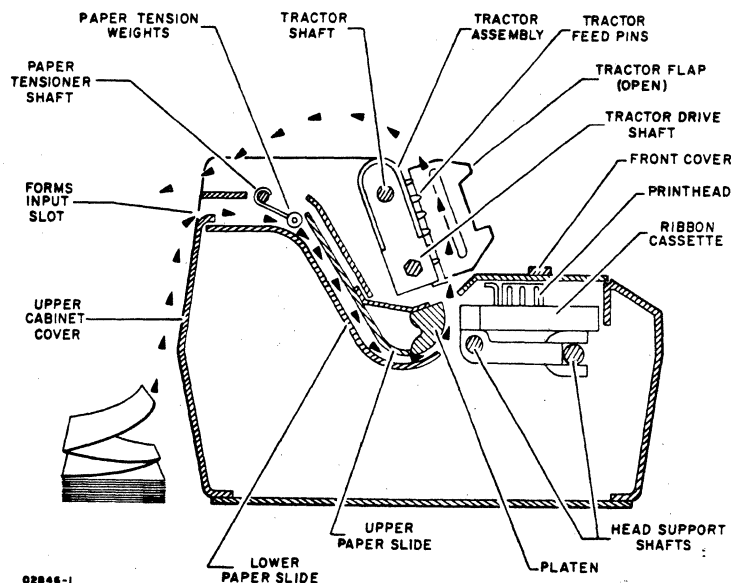

Figure 70-2. Paper Forms Installation
- 2) Place stack of fan folded forms on flat surface behind printer (figure 70-2).